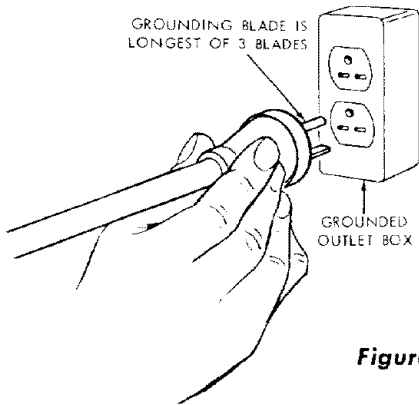

Figure 43
**WARNING: DO NOT PERMIT FINGERS TO CONTACT THE TERMINALS OF POWER OR MOTOR PLUGS WHEN INSTALLING OR REMOVING THE PLUG TO OR FROM A LIVE POWER SOURCE. (SEE FIGURE 43.)**